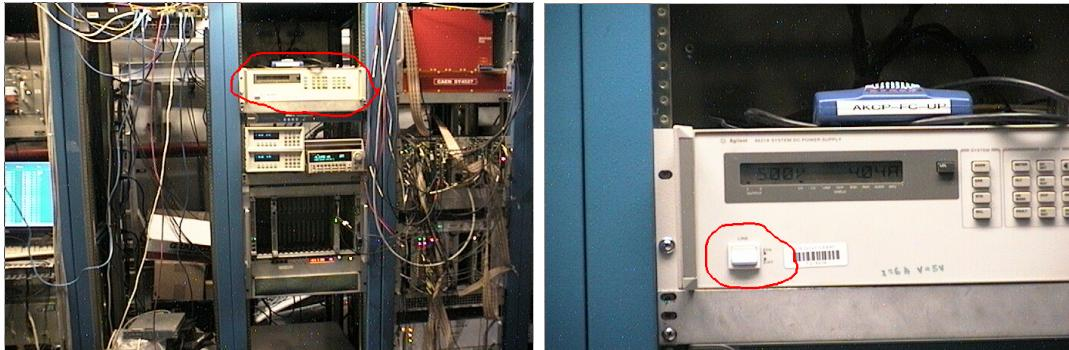

Figure 18: Location of Agilent LV power supply near the top of the middle rack in the pie tower. Power switch circled.
- The LV supply is on the Pie Tower at the top of the middle rack. See figure 18.